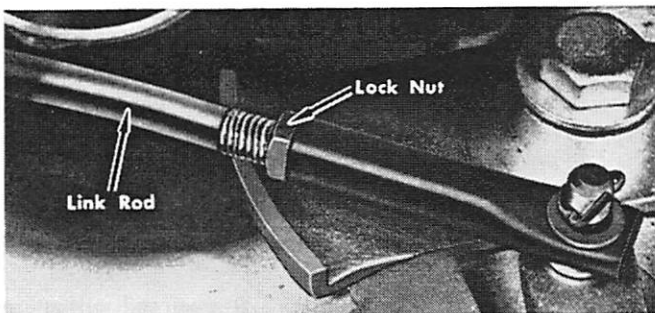

Figure 1. Reverse Lock Adjustment
A. Upper Shift Shaft Adjustment (Figure 1)